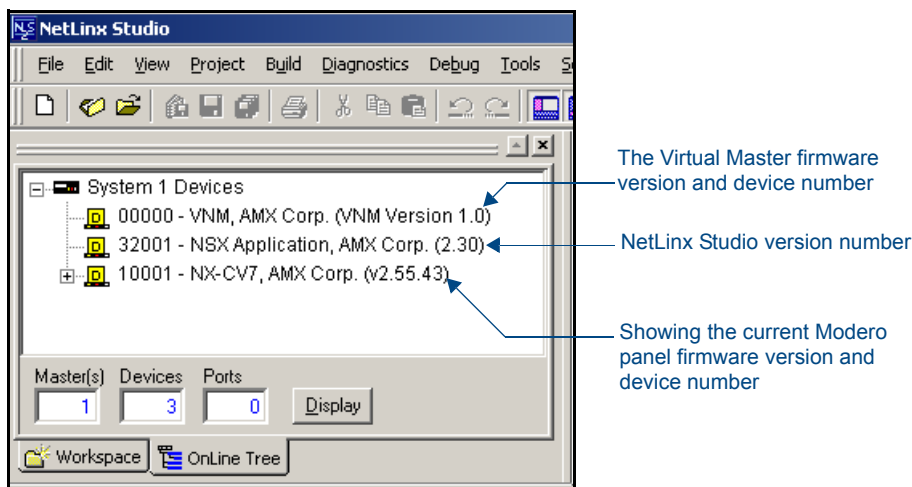

FIG. 48 NetLinx Workspace window (showing the panel connection via a Virtual NetLinx Master)
3. After the Communication Verification dialog window verifies active communication between the Virtual Master and the panel, click the **OnLine Tree** tab in the Workspace window (FIG. 48) to view the devices on the Virtual System. *The default System value is one.*
4. Right-click on the System entry (FIG. 48) and select **Refresh System** to re-populate the list. Verify the panel appears in the **OnLine Tree** tab of the Workspace window. *The default Modero panel value is 10001.*